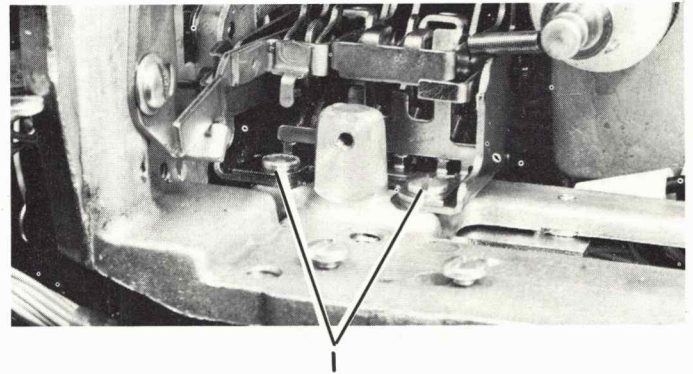

FIGURE 49. Operational Interposer Bracket Removal
5. Remove the six (two shown) mounting screws (#1, Figure 49).